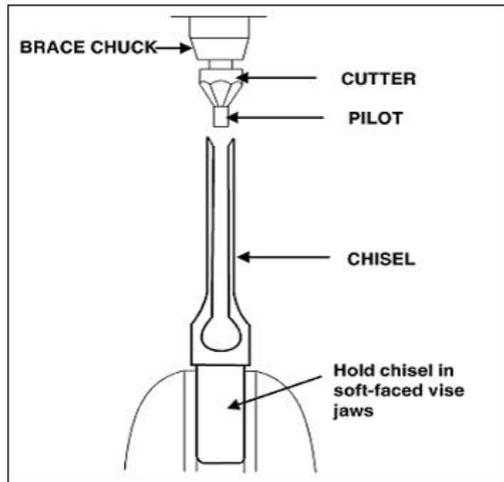

Fig 9
- Sharpen the chisel with a mortise and tenon chisel with the correct size guide. (Pilot size will vary depending on the size of the chisel). Two to three turns of the cutter in the carpenter's bracket chuck are enough to sharpen the chisel, as shown in Figure 9.